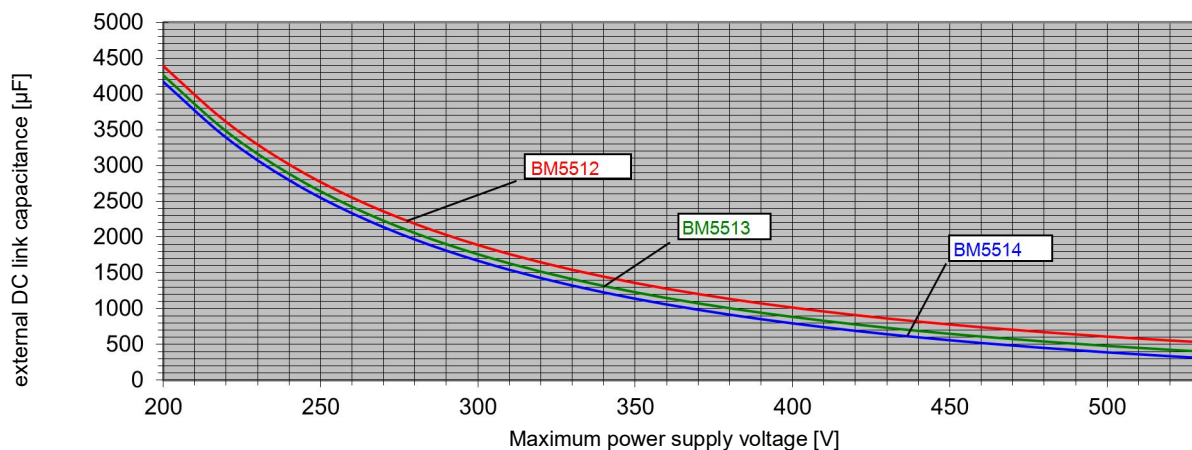

Figure 34: Maximum external DC link capacitance BM551X universal units
DC link capacitance (external), permitted	Refer to ▶Figure 34◀ on page 62
- 8) The specified value is only valid if there is no additional DC link capacitance connected to the DC link terminals. Refer to ►Power on switching frequency / DC link charging◄ on page 231 and ►Figure 34◄ on page 62.